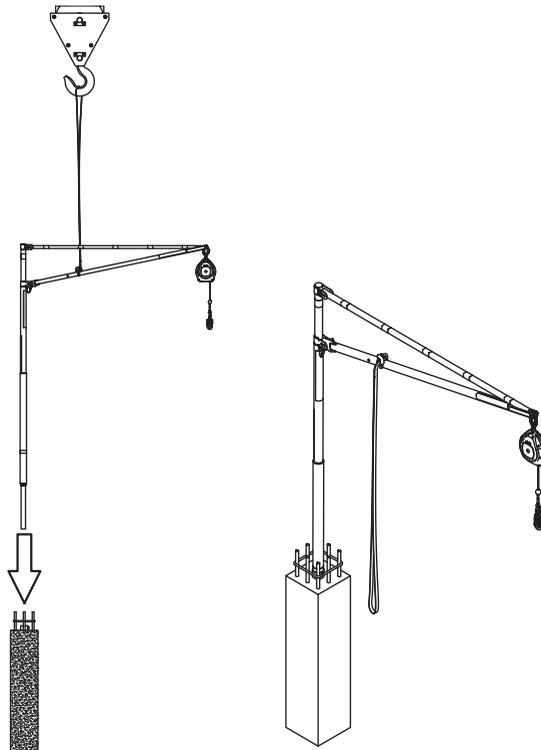

Figure 30. Placement of the SkyReach Anchor
3. Make sure that the Endless Webbing Sling is correctly attached to the Lifting Eye located at the brace. Attach the crane hook to the sling and lift the SkyReach Anchor. Remove the plastic plug from the Cast-In Sleeve, then lower the SkyReach Anchor down into the sleeve, see Figure 30. If required, the SkyReach Reach Hook can be used to guide the SkyReach Anchor into place by hooking the hook to the mast and guide the anchor into position.